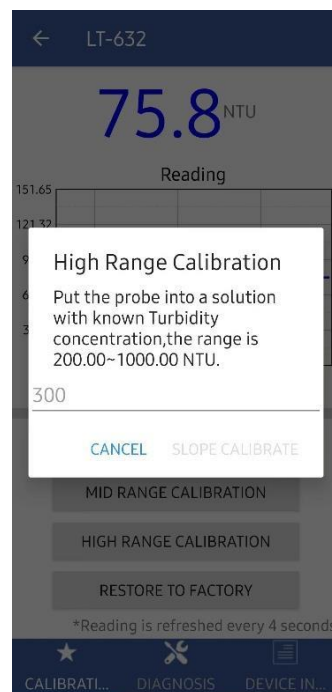

Figure 12
3. Wait until the reading stabilizes and then click the High Point Calibration button to calibrate the highpoint to the value of the standard utilized, as in Figure 12.